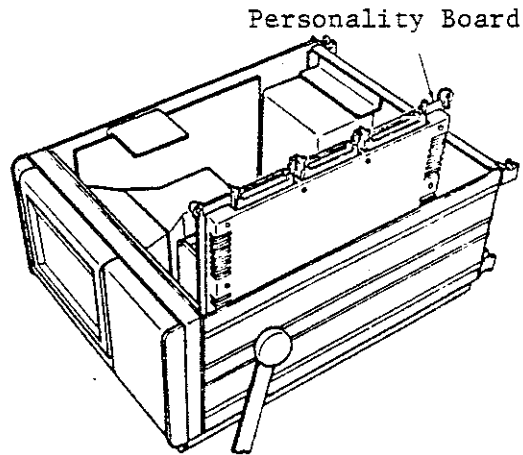

Fig. 1 Personality board change
- 4) Disconnect the board by pulling the finger grips on both sides of the board. (See Fig. 1)